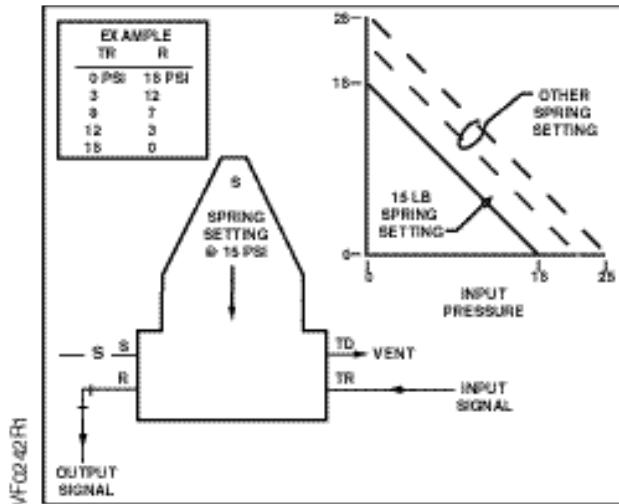

Figure 3. Reverse Acting (RA) Amplifying Relay.
- Reverse acting amplifying (See Figure 3).
A rise in input pressure will cause an equivalent fall in output pressure. Initial maximum relay output is adjusted with spring setting. Relay is fail-safe and cannot generate an output signal unless a source of air is available at S-port (Figure 3).